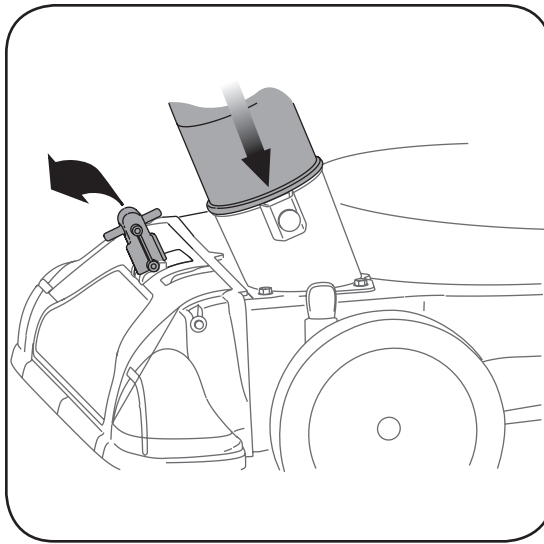

Figure 4-6
1. Place nozzle/hose vac lever in the bottom position on the nozzle to redirect vacuum to the hose assembly. See Figure 4-6.
2. The spring loaded pin must be in the second hole of the hose adapter to operate the hose assembly. See Figure 4-6.